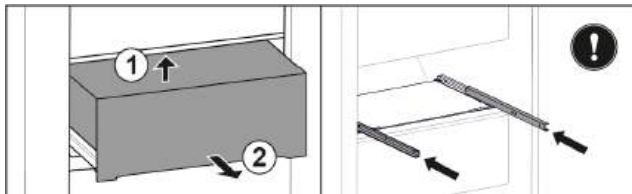

Fig. 107
- Lift drawer from below. Fig. 107 (1)
- Remove drawer to the front. Fig. 107 (2)